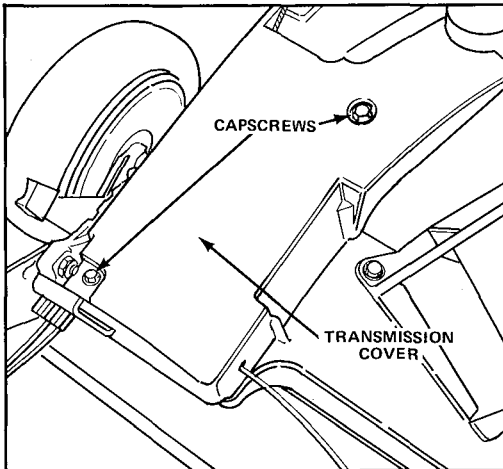

Figure 24
2. Remove two cap screws and lift off transmission cover (Fig. 24).